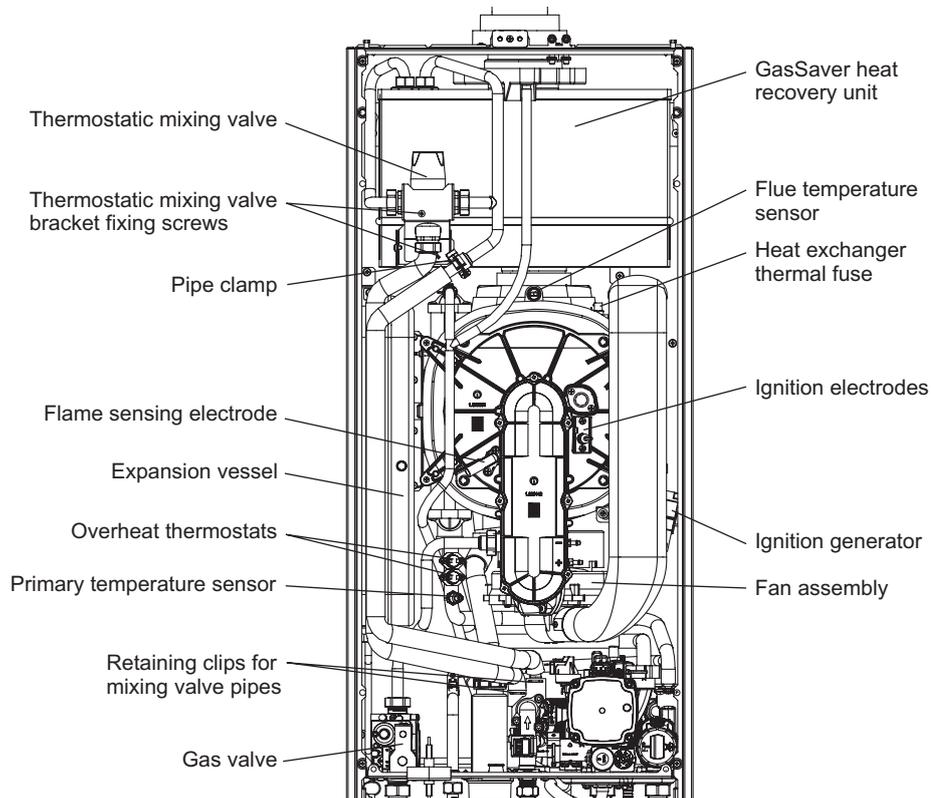

Fig. 7.1
7.3 ELECTRODES - Fig. 7.1
7.7 IGNITION GENERATOR - Fig. 7.1
7.8 OVERHEAT THERMOSTATS - Fig. 7.1
7.9 FLUE TEMPERATURE SENSOR - Fig. 7.1
7.10 GAS VALVE - Fig. 7.1
7.20 PRIMARY HEAT EXCHANGER - Figs. 7.1 and 7.4
3. Unplug the connections from the flue temperature sensor and thermal fuse, see Fig. 7.1.